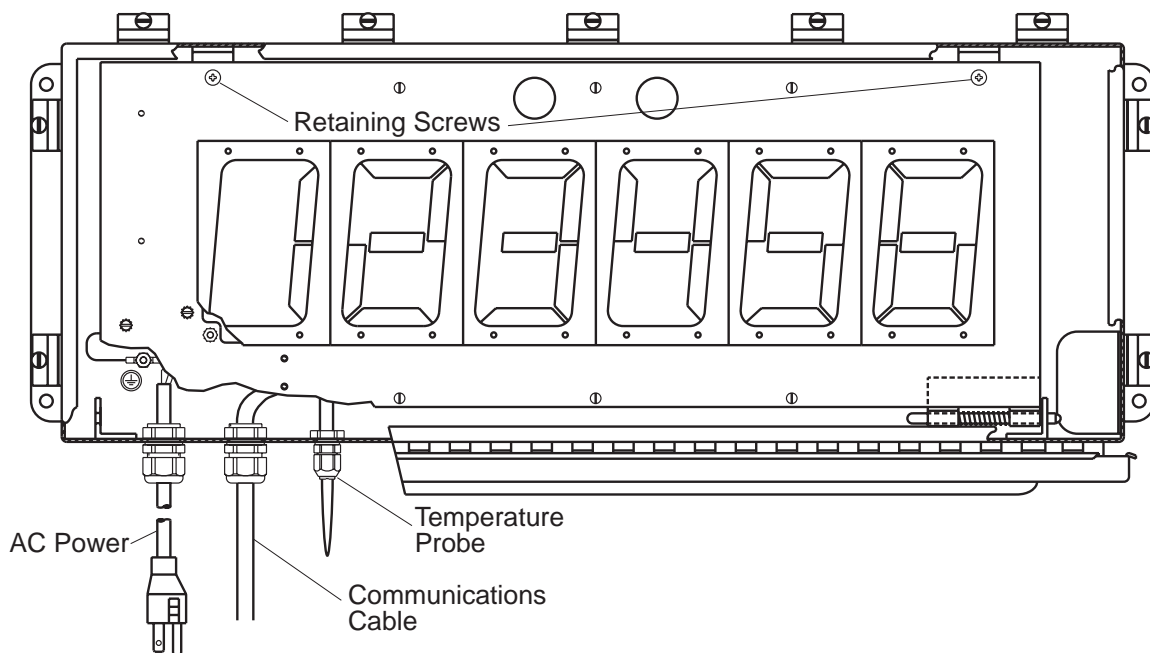

Figure 3-1. Watertight Cable Fittings (Cover Removed for Illustration Purposes)
2. Loosen communication cable watertight cable fitting (See Figure 3-1).